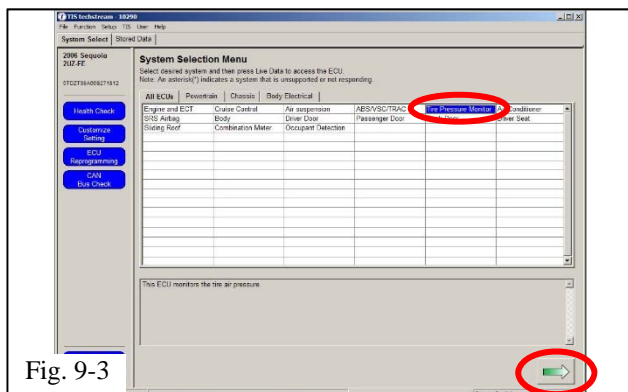

Fig. 9-3
- (f) Select “Tire Pressure Monitor”, then click the green arrow located on the bottom right (Fig. 9-3).